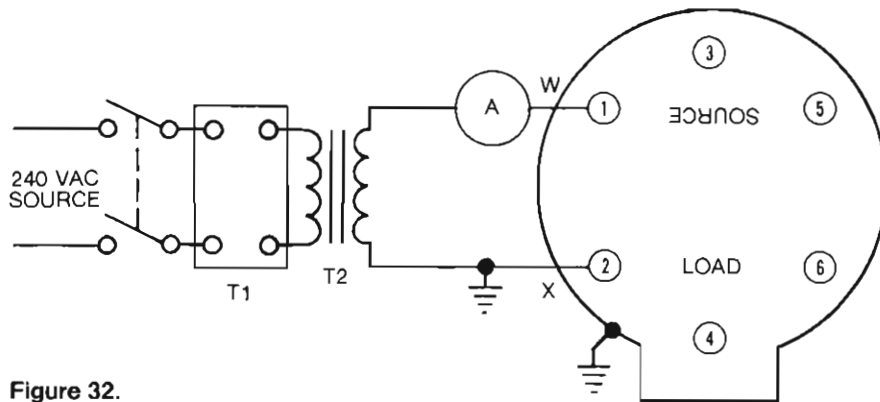

Figure 32.
A suggested test circuit is shown in Figure 32. The following equipment is required for the recommended test setup:
4. Connect the low-voltage a-c test circuit, Figure 32, to phase A of the recloser.